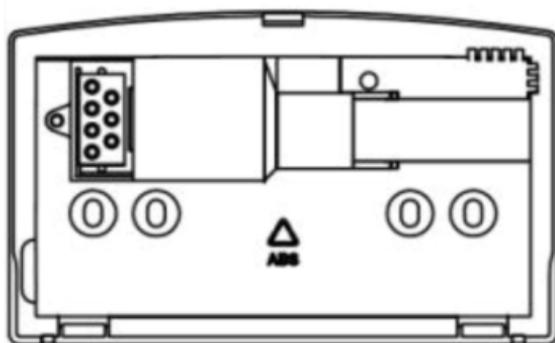
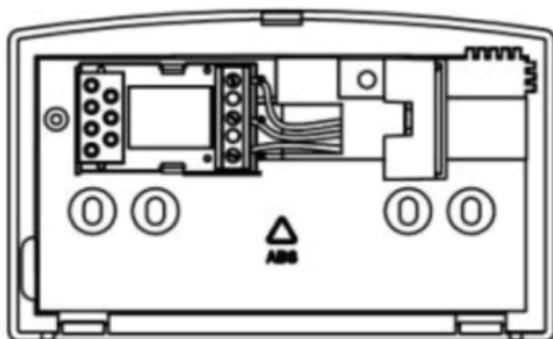

Fig.4
Fig.5
3. Unscrew the cover that is protecting the live terminals (Fig.4). Lift the cover to expose the wiring block (Fig.5), taking care to retain the screw.